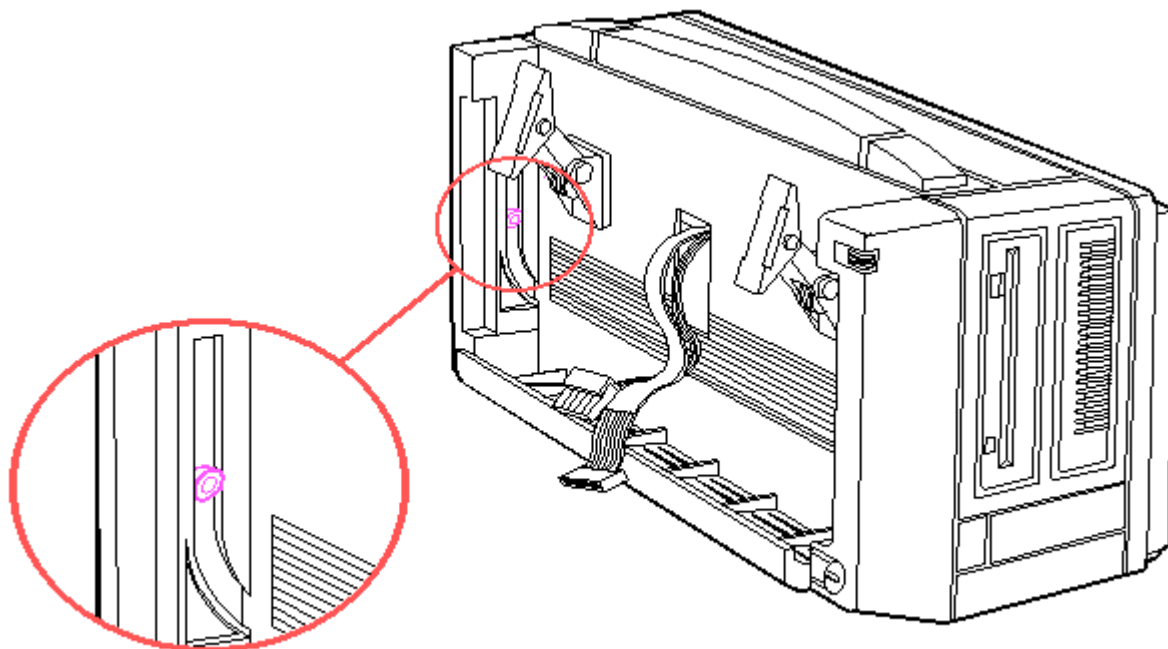

Figure 8-87. Rollers
10. Notice that the rollers are still located in the grooves (Figure 8-87).